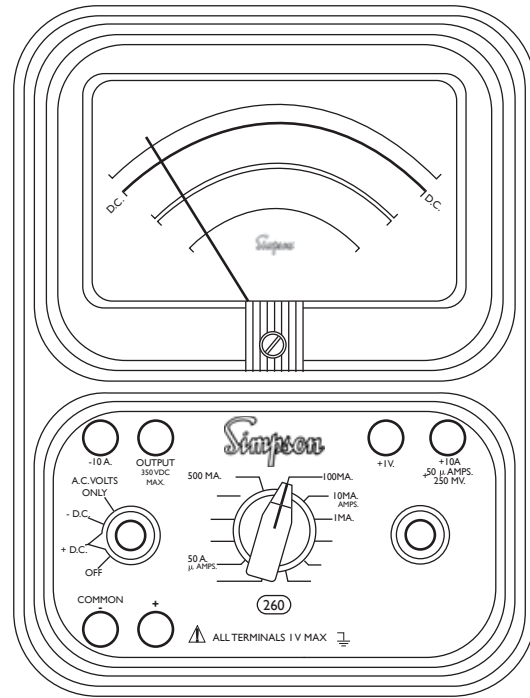

FIGURE 4-11. Jacks and Switch Positions for Measuring Direct Current
- a. Set the function switch at +DC (Figure 4-11).